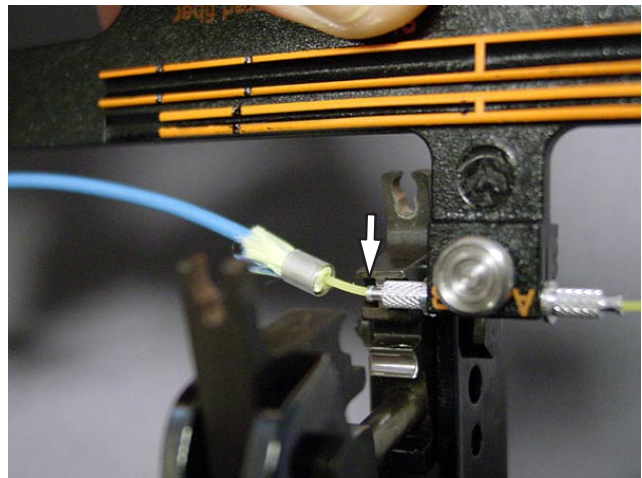

Figure 84
11. Position the splice assembly into the die set as shown in Figure 84 and crimp the buffer by closing the handles until the ratchet releases.